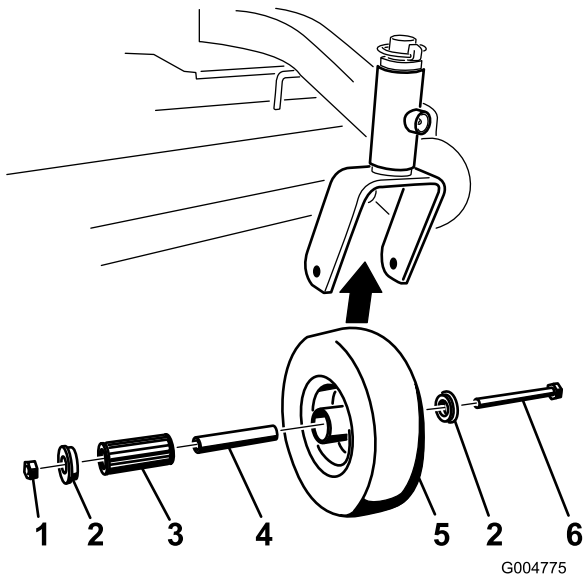

Figure 39
1. Remove the locknut and wheel bolt holding the caster wheel to the caster fork (Figure 39).
2. Remove one bushing, then pull the spanner bushing and roller bearing out of the wheel hub (Figure 39).
3. Remove the other bushing from the wheel hub and clean any grease and dirt from the wheel hub (Figure 39).
4. Inspect the roller bearing, bushings, spanner bushing and inside of the wheel hub for wear. Replace any defective or worn parts (Figure 39).
5. To assemble, place one bushing into the wheel hub. Grease the roller bearing and spanner bushing and slide them into the wheel hub. Place the second bushing into the wheel hub (Figure 39).
6. Install the caster wheel into the caster fork and secure with the wheel bolt and locknut. Tighten the locknut until the spanner bushing bottoms against the inside of the caster forks (Figure 39).